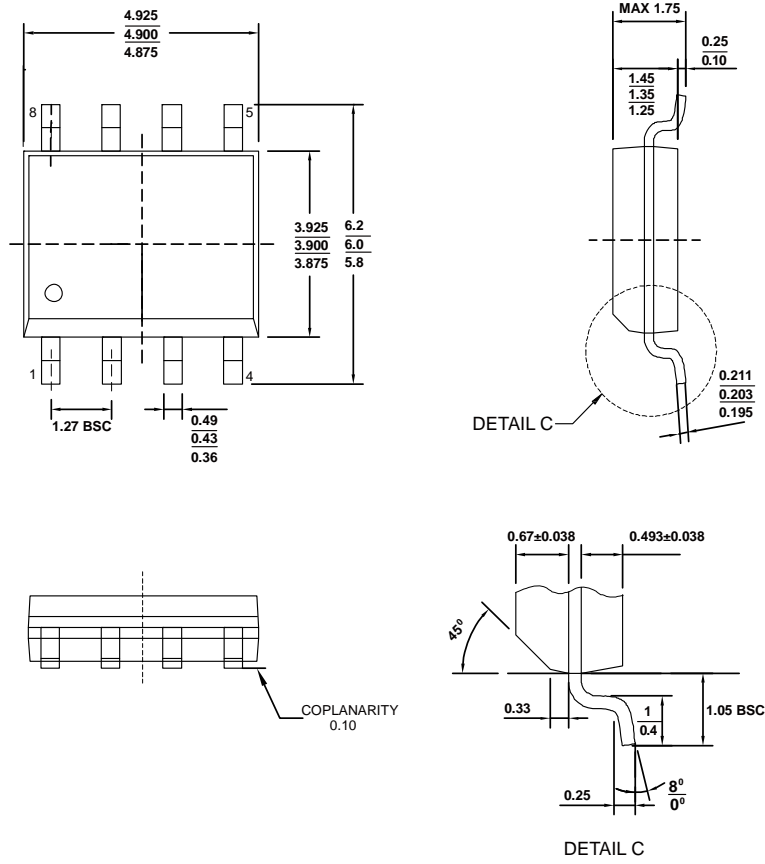

Figure 40. 8-Lead SOIC Package Dimensions shown in millimeters
- Place the external components as close to the device as possible. As illustrated in Figure 40, keeping R_F, R_G and C_F close to the inverting input minimizes parasitic capacitance.